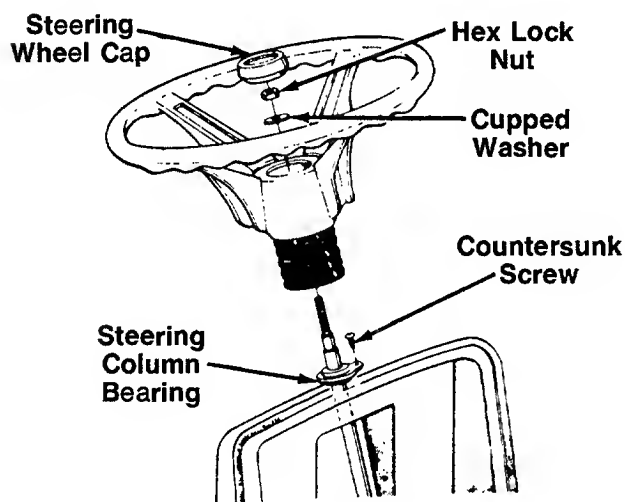

FIGURE 7.
5. Place the steering column bearing (solid side up) over the upper end of the steering shaft. Seat the steering column bearing into the hole in the dash panel. Secure with countersunk screw. See figure 7.
8. Place the washer with the cupped side down over the steering shaft. Secure with 5/16" hex lock nut. See figure 7.